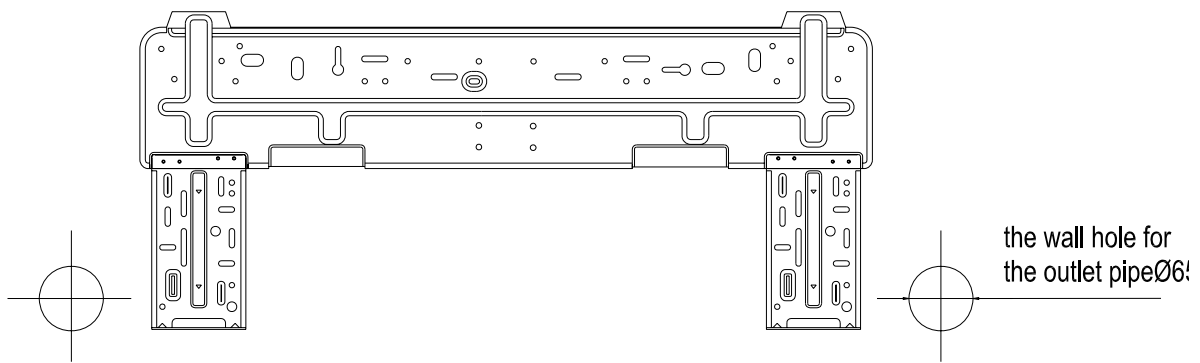

Fig. 1
4. The diameter showed on the fig.1 is 65mm.
- Make the piping hole (Φ65mm) in the wall at a slight downward slant to the outdoor side. The center of the hole should be determined refer to Fig. 1